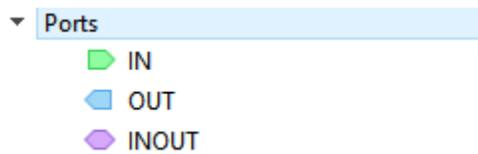

Figure 3.15. Three Port Types
- Click **Ports** from the Meta Data Tree, three port types (IN, OUT, INOUT) (Figure 3.15) are listed.